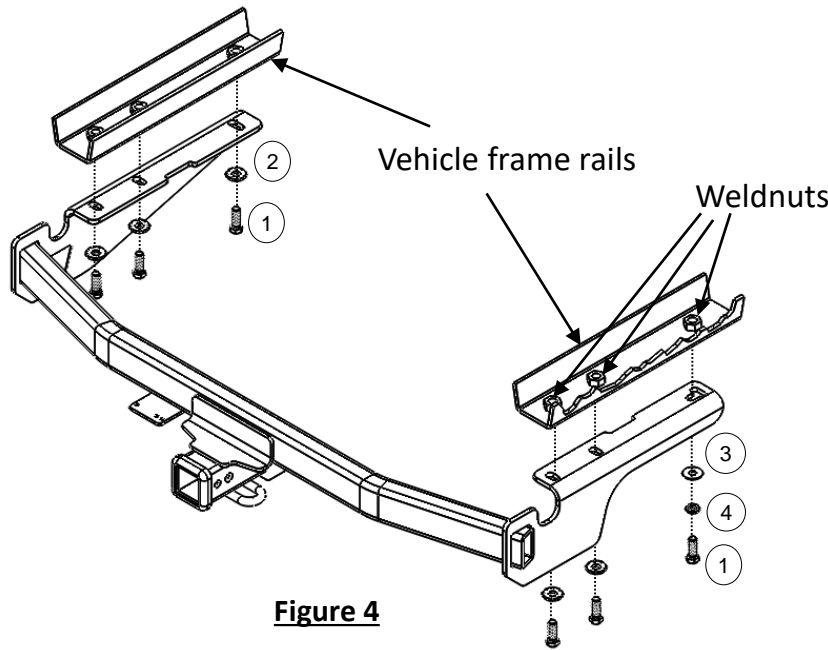

Figure 4
- 1. Remove driver side plastic panel** – Using phillips screwdriver, flat head screwdriver and 12mm socket with wrench remove (3) screws, (2) plastic rivets and (2) flange nuts respectively from driver side plastic panel. Remove plastic panel and return to owner with fasteners.
- 2. Remove passenger side plastic panel** – Using phillips screwdriver, flat head screwdriver and 12mm socket with wrench remove (3) screws, (2) plastic rivets and (1) bolt respectively from passenger side plastic panel. Remove plastic panel and return to owner with fasteners.
- 3. Remove metal tab** – Using 17mm socket with wrench remove (1) bolt from metal tab on passenger side frame rail. Remove metal tab and return to owner with bolt.
- 4. Lower muffler** – Using an exhaust hanger removal tool, lower muffler by removing (1) rearmost rubber hanger. A spray of lubricant or soapy water on rubber hanger makes it slide off metal pins more easily. **NOTE: Be sure that exhaust is properly supported before removing rubber hanger.**
- 5. Remove plugs and caulking** – Using flat head screwdriver remove (3) plastic style plug (on driver side), (2) plastic style plug (on passenger side) and (2) rubber plug from both side frame rails. Return the plugs to owner. Using utility knife, remove 1/2" caulking from both side frame rails close to forward attachment hole for easier installation. **NOTE: Make sure that vehicle weldnuts are free from rust and debris. Use wire brush to clean the weldnuts if needed.**
- 6. Detach lower fascia tabs** - Using flat head screwdriver, remove (2) plastic rivets from lower fascia tab. Detach the tabs from end panel.
- 7. Install hitch** – Raise and align hitch into position over existing weldnuts and loosely install M12 bolts (item 1), conical washer (item 2), flat washer (item 3), and lock washer (item 4) to the hitch, as shown in Figure 4. Note: Only forward hole on passenger side uses flat and lock washer.
- 10. Reattach lower fascia tabs** – Using the included cable ties (item 5), reattach the fascia tabs to the hitch cross tube to secure